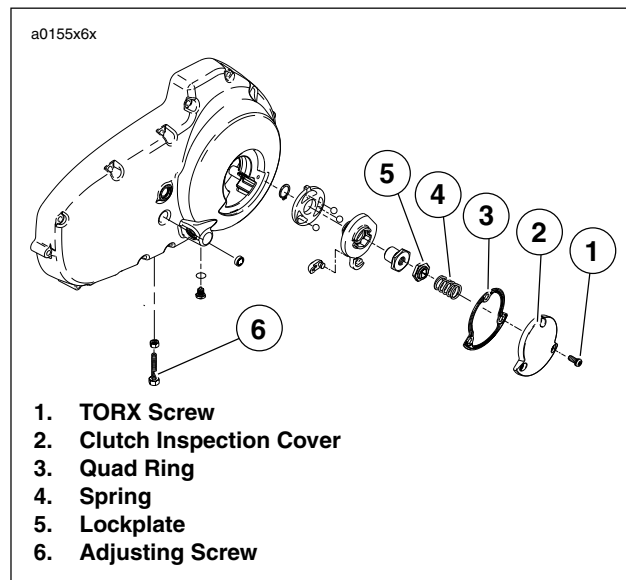

Figure 1-12. Clutch Release Mechanism
- See Figure 1-12. Remove three TORX screws with washers (1) from clutch inspection cover (2). Remove clutch inspection cover from primary cover.
Quad ring removed from primary cover for illustrative purposes only in Figure 1-12.
- See Figure 1-12. Install clutch inspection cover using three TORX screws with washers. Tighten in a crosswise pattern to 7-9 ft-lbs (9.5-12.2 Nm).